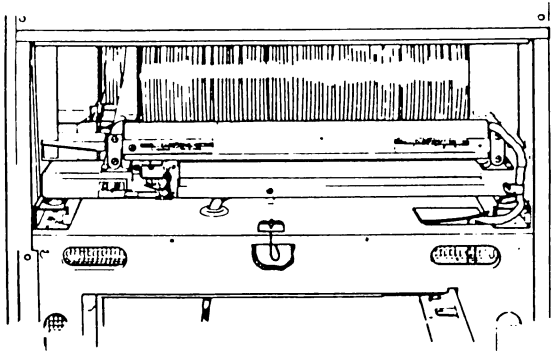

Figure 16.
1. Open Rear Access Panel above phonograph rear door, *Figure 16*, in the following manner: